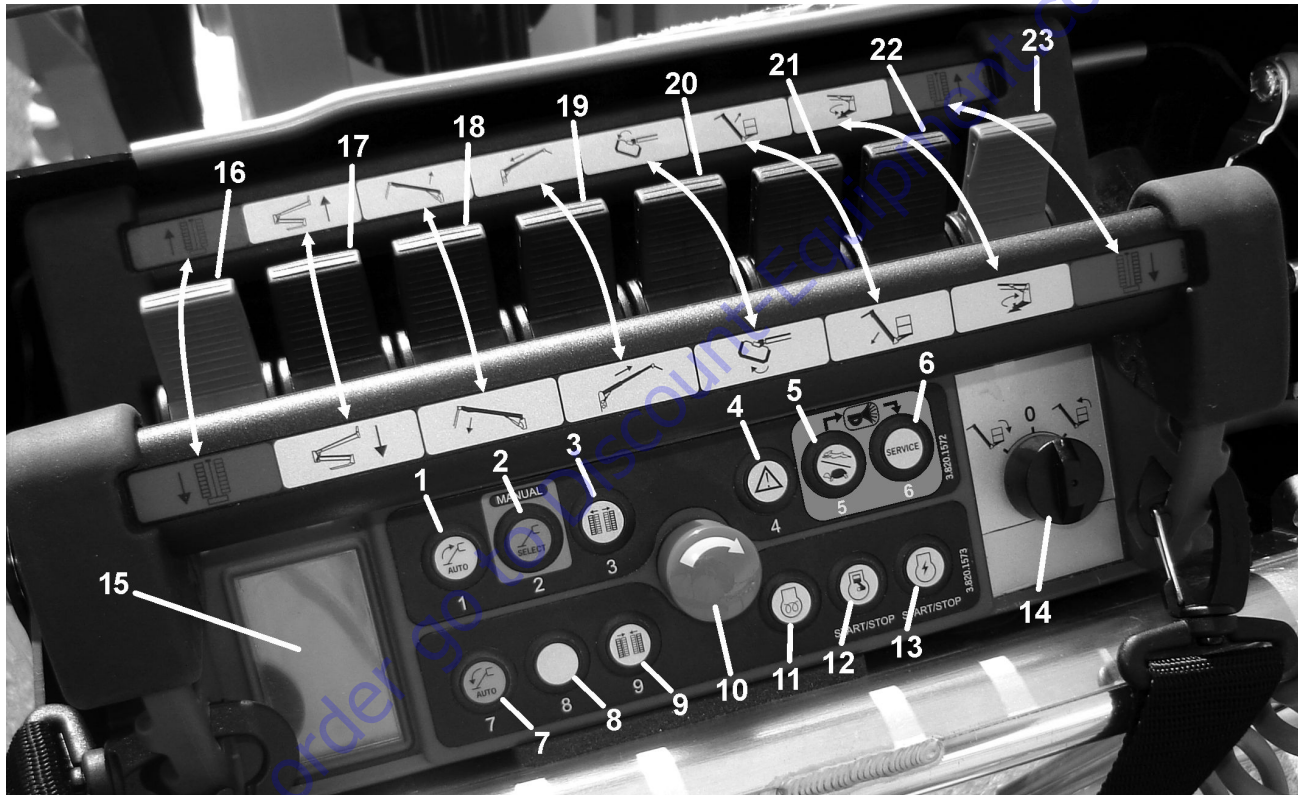

Figure 3-3. Platform/Remote Control Station
See Figure 3-3. on page 3-10, Platform Control Console for remaining items.
At machine start-up and during machine operation the main LCD display screen (item 15 - Figure 3-3.) is activated. There are eight (8) display positions which indicate machine status during various stages of operation.